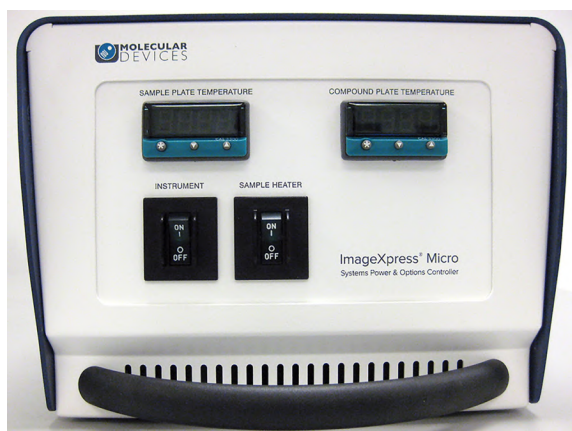

Figure 7-1: ImageXpress Systems Power and Options Controller (front)
- **ImageXpress Systems Power and Options Controller.** See Figure 7-1.